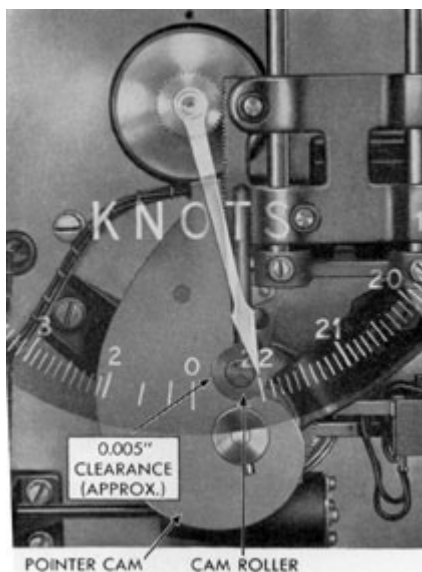

Figure 20-7. Cam positioned for setting pointer at 22 knots.
**20F2. Calibrating the master speed repeater.** (See Figure 20-7.) In order to make the speed
inch of seating in the hollow of the pointer cam as shown in Figure 20-7. Use care in turning the gears as excess motion may bend the supporting arm of the cam roller.
three screws clamping the pointer to the hub; then replace the pointer hub cap. The speed pointer is now in correct relation to the cam (Figure 20-7). Now rotate the followup gearing by hand until the master speed repeater indicates about 5 knots. Energize the 1Y circuit. If the master speed repeater speed indications do not agree with those of the transmitter, it will be necessary to align the self-synchronous repeater with the self-synchronous transmitter.